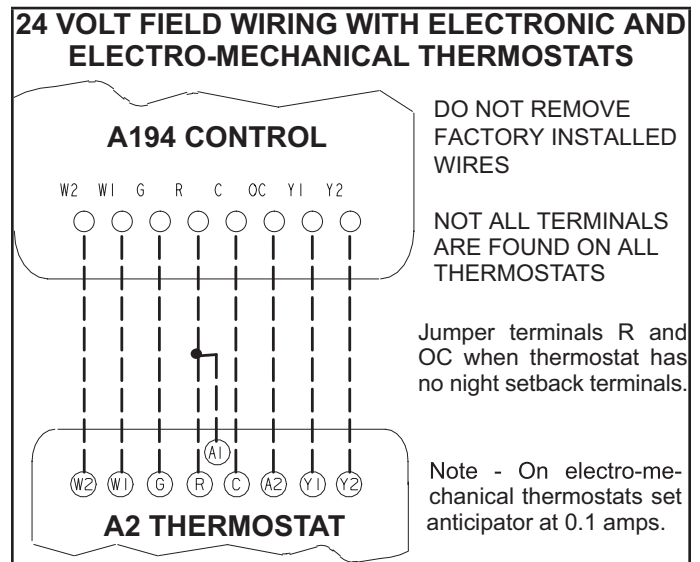

FIGURE 8
- 3 - Connect thermostat wiring to low voltage terminal block on the Leak Sensor Control Board (A194) in control box. Wire as shown in FIGURE 8 for electro-mechanical and electronic thermostats. If using other temperature control devices or energy management systems see instructions and wiring diagram provided by manufacturer.